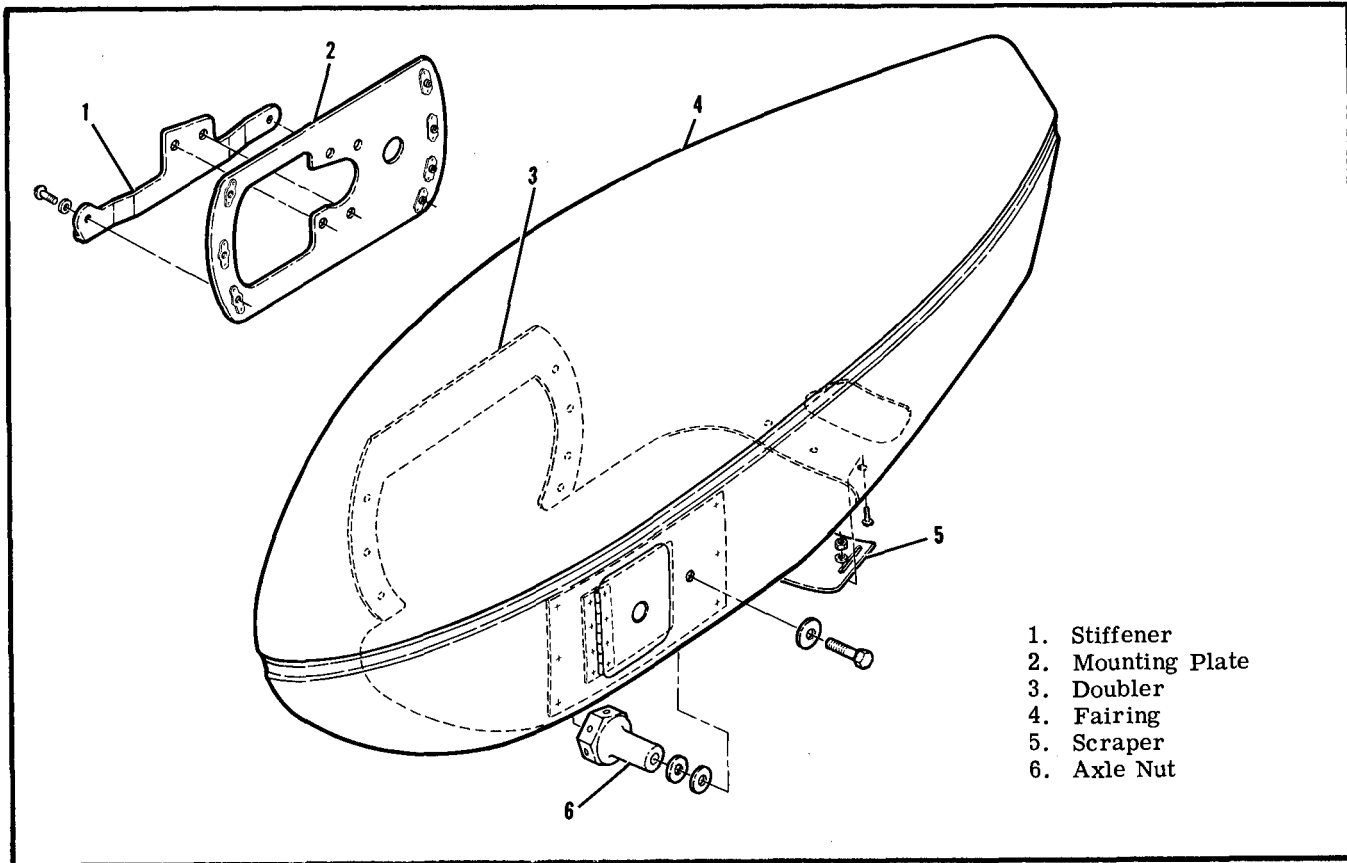

Figure 5-2. Main Wheel Speed Fairing
**5-12. MAIN WHEEL SPEED FAIRING REMOVAL.** (Refer to figure 5-2.)
- b. Remove screws attaching stiffener (1) and in-board side of wheel speed fairing (4) to attach plate (2), which is bolted to the axle.
**5-12A. MAIN WHEEL SPEED FAIRING INSTALLATION.** (Refer to figure 5-2.)
c. Install screws attaching stiffener (1) and inboard side of wheel speed fairing (4) to mounting plate (2), which is bolted to the axle.